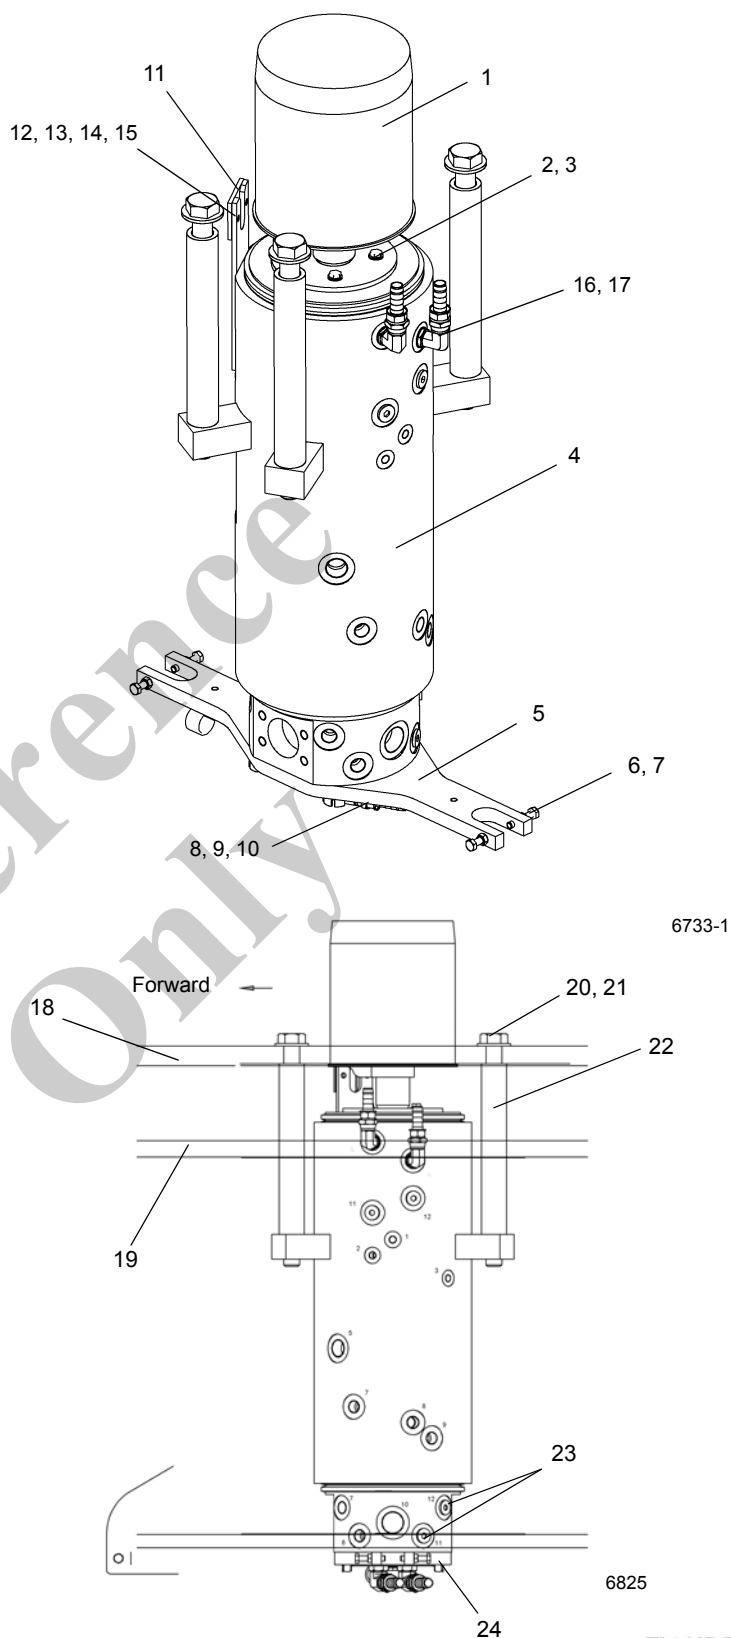

FIGURE 6-5
- Using shims, set backlash by moving the swing drive assemblies toward the bearing in order to mesh the pinion with the ring gear teeth (see Figure 6-5).
The swivel assembly (Figure 6-5) consists of a 10 port hydraulic swivel, a 2 port water swivel, a 2 port refrigerant swivel and a 20 conductor slip ring electrical swivel. Solid connections cannot be used to transfer oil, heater hot water and electricity between the carrier and superstructure due to the continuous 360 degree swing. The use of swivels efficiently accomplishes this function.